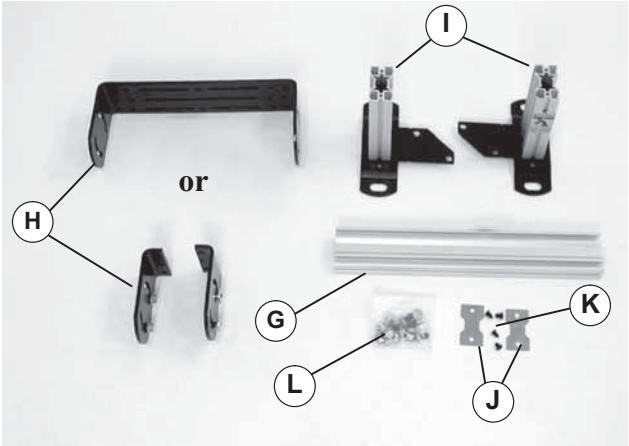

Figure 2
1. Typical components (Figure 2).
2. Open fastener bag (Figure 2, item L)